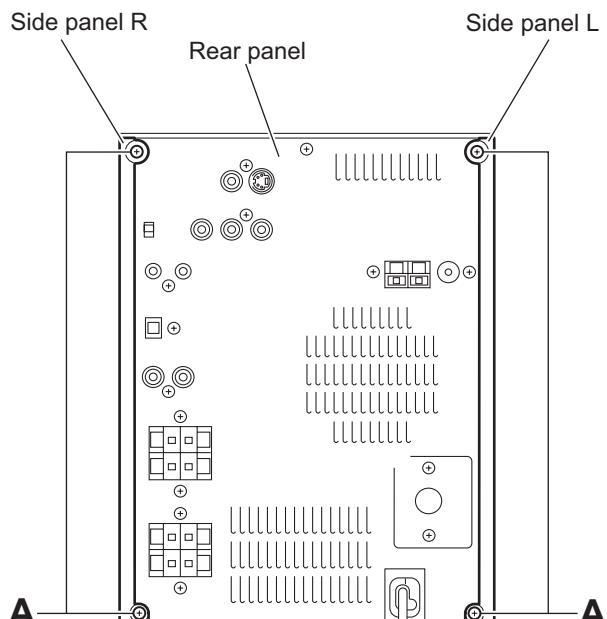

Fig.1
3.1.1 Removing the side panels L/R (See Figs.1 to 4)
- (1) From the back side of the main body, remove the four screws **A** attaching the side panels L/R to the rear panel. (See Fig.1.)